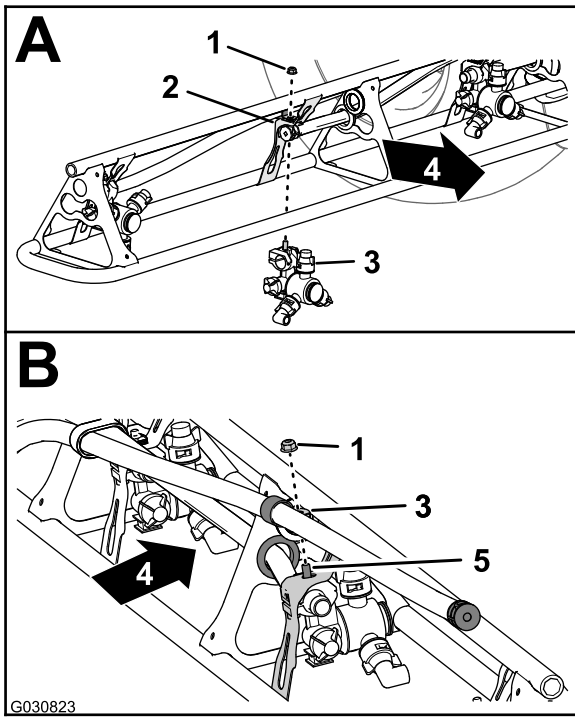

Figure 131
- At the nozzle positions 1 and 4, assemble the sprayer nozzle to the nozzle mount (A of Figure 131) with the flange locknut (5/16 inch) that you removed in step 2 of Removing the Sprayer Nozzles from the Outer-Spray Sections (page 55).
- At the nozzle positions 2 and 3, assemble the sprayer nozzle to the nozzle mount (A and B of Figure 131) with the flange locknut (5/16 inch) that you removed in step 2 of Removing the Sprayer Nozzles from the Outer-Spray Sections (page 55).